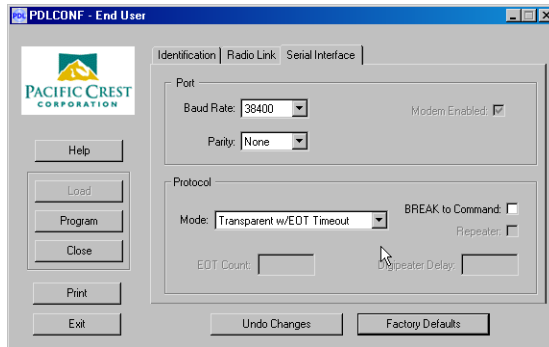

Figure 2-32. PDL Serial Interface Tab
14. Click the Serial Interface tab and set the following parameters (Figure 2-32):